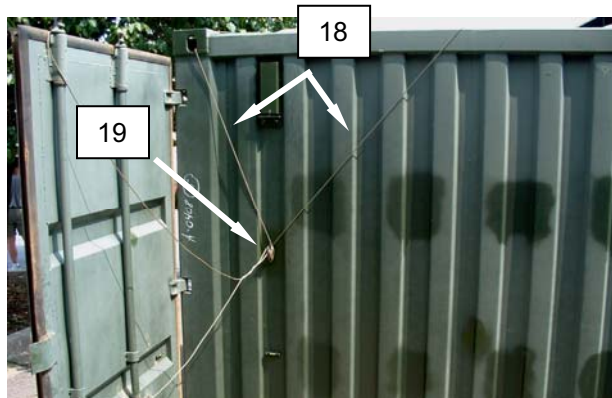

Figure 25. CBL Shut Down Procedure during NBC Imminent or Actual Attack.
13. Untie the bootwall fly lines (**Figure 25, Item 18**) from two cleats (**Figure 25, Item 19**) on back side of container.